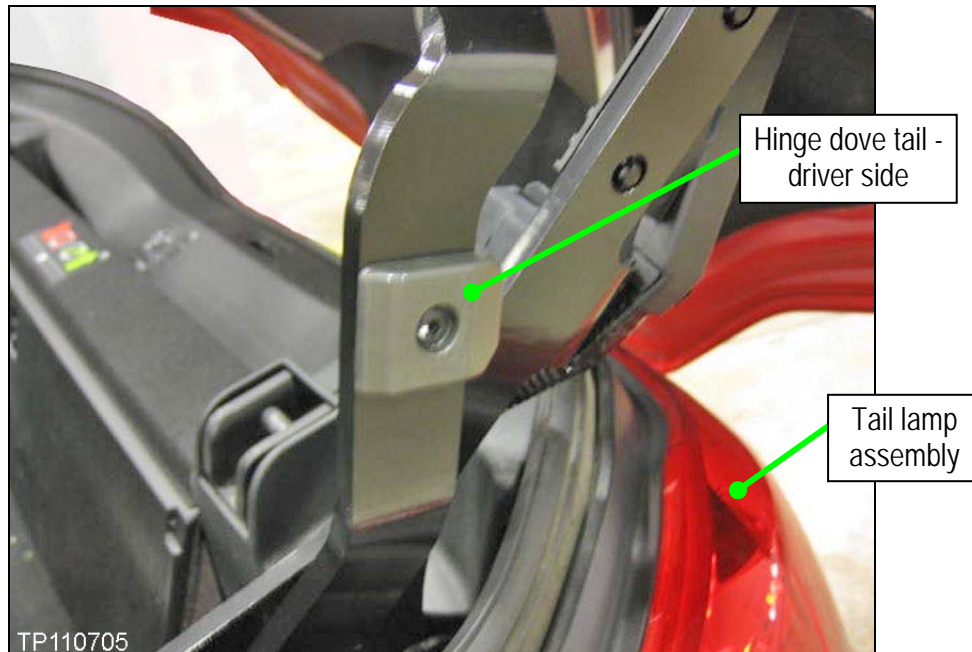

Figure 46
46. Inspect both driver and passenger side hinge dove tails (see Figure 46).